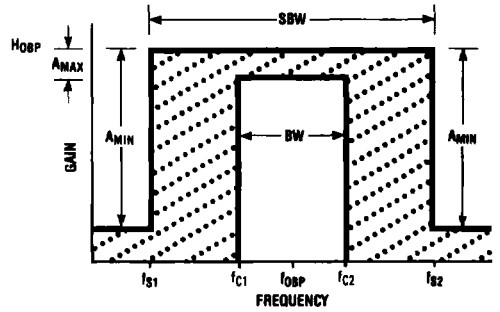

FIGURE 7. Graphical representation of the amplitude response specifications for a bandpass filter. The filter's response should fall within the shaded area.
1) Determine the characteristics of the desired filter. This will depend on the requirements of the particular application. For a given application, the required bandpass response can be shown graphically as in Figure 7, which shows the limits for the filter response. Figure 7 also makes use of several parameters that must be known in order to design a filter. These parameters are defined below in terms of Figure 7.